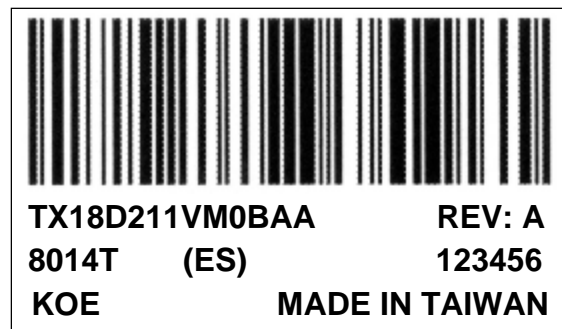

Fig. 12.2
4) The location of the lot mark is on the back of the display shown in Fig. 12.2.